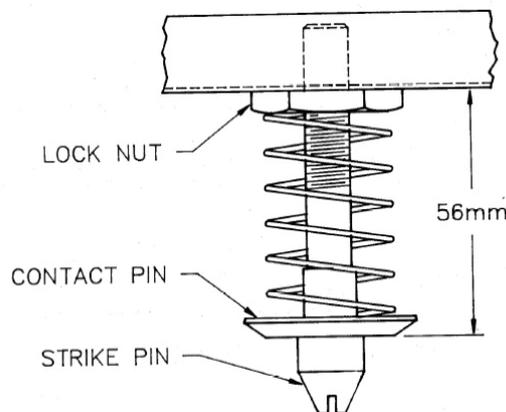

Figure 209 Bonnet Striker Pin
- e. Adjust the bonnet striker pin to the correct dimensions (Figure 209).